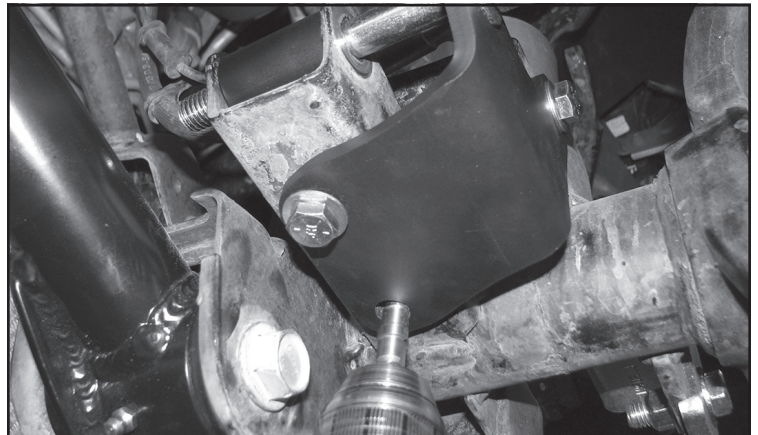

FIGURE 5 - STEP 4
4. REPEAT STEP 3 ON THE PASSENGER SIDE. **NOTE: The forward hole on the passenger side lower shock mount needs to be marked and drilled out to 3/8". SEE FIGURE 5.** Torque 3/8" hardware to 52 ft-lbs.